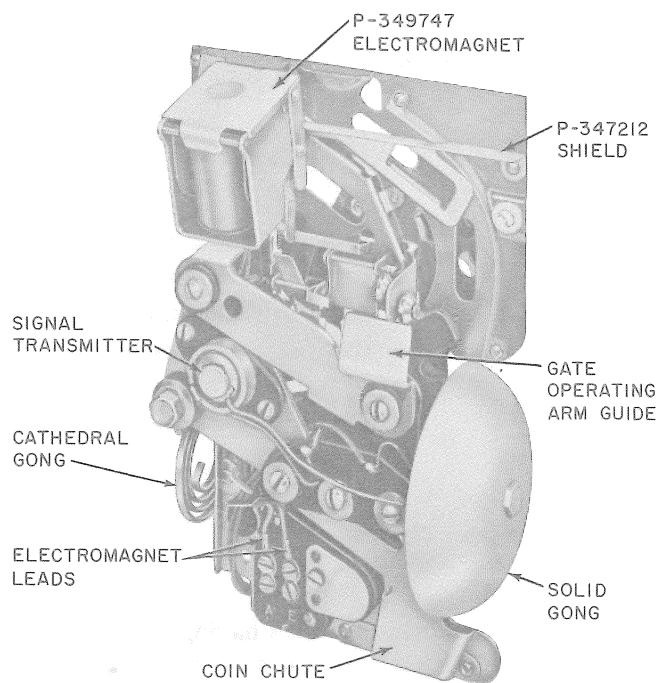

Fig. 25—Coin First Gong Signal and Chute Assembly
5.10 Generally, the gong signal and chute assembly (Fig. 25) consists of a coin chute, including electromagnet, and a gong assembly with signal transmitters.
5.21 The gong assembly is mounted on the coin chute, as shown in Fig. 25. It consists of a supporting bracket on which are mounted the two gongs and their associated signal transmitters. The solid gong for nickel and dime signals and one signal transmitter are mounted on a metal plate. The cathedral gong for quarter signals and the second signal transmitter are mounted on a bracket. The two units are insulated against vibration from each other and from the coin chute by use of rubber grommets at all mounting points. The support bracket also provides a guide to protect the switchhook gate-operating arm from damage when the upper housing is assembled on the backplate.